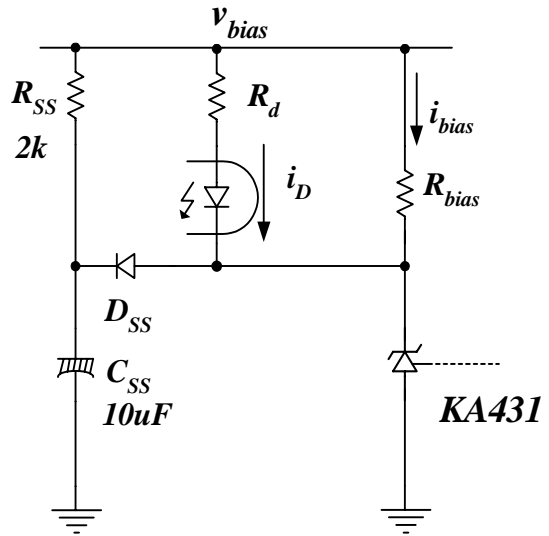
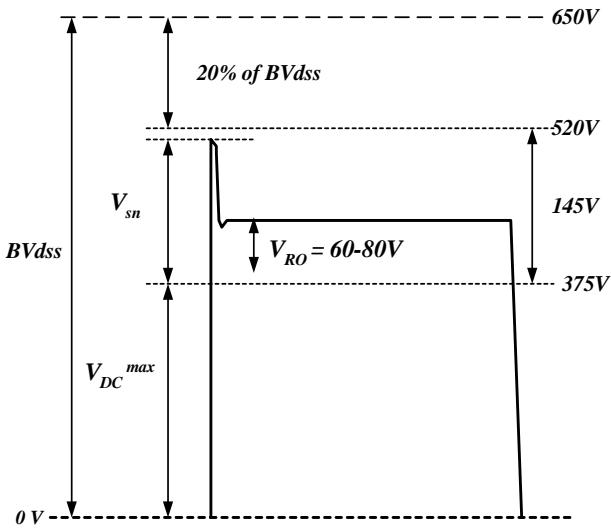

Figure 7. External soft-start circuit
Figure 8. Drain voltage
- If overshoot occurs only during startup, add an external soft-start circuit in the feedback network as show in Figure 7. This circuit removes the output voltage overshoot by slowly increasing the current through the opto LED.
Figure 8 shows a typical MOSFET drain voltage waveform for the universal input application. Many customers make it a rule to keep the maximum drain voltage under 80% of the BV_{dss} of the MOSFET. When the maximum drain voltage in normal operation exceeds its specification, reduce the snubber capacitor voltage (V_{sn}) by reducing the reflected output voltage (V_{RO}). V_{RO} can be reduced by decreasing the primary side turns with other winding turns fixed. Because this increases the voltage stress in the secondary side diodes, the voltage stresses on the secondary side diodes should be checked again. The snubber capacitor voltage can be also reduced by decreasing the snubber resistor. However, this method has a limitation, since it increases the loss in the snubber network. It is typical to set the snubber capacitor voltage to be around twice the reflected output voltage as shown in Figure 8. For detailed design equations, refer to the application note AN4137. If the drain voltage exceeds its specification only when it starts up, use the soft-start circuit in Figure 7.